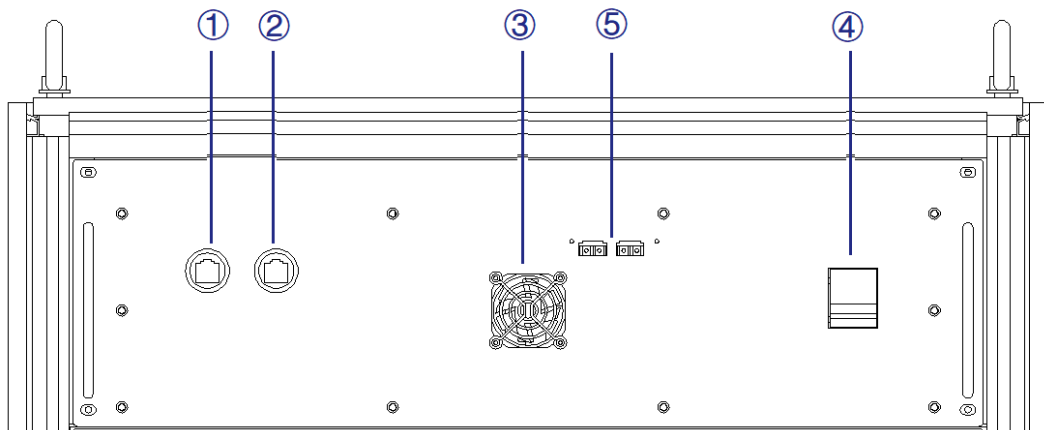

Figure 3-7
Step 3: Open the cabinet door and power off the control unit switch (Figure 3-7④);